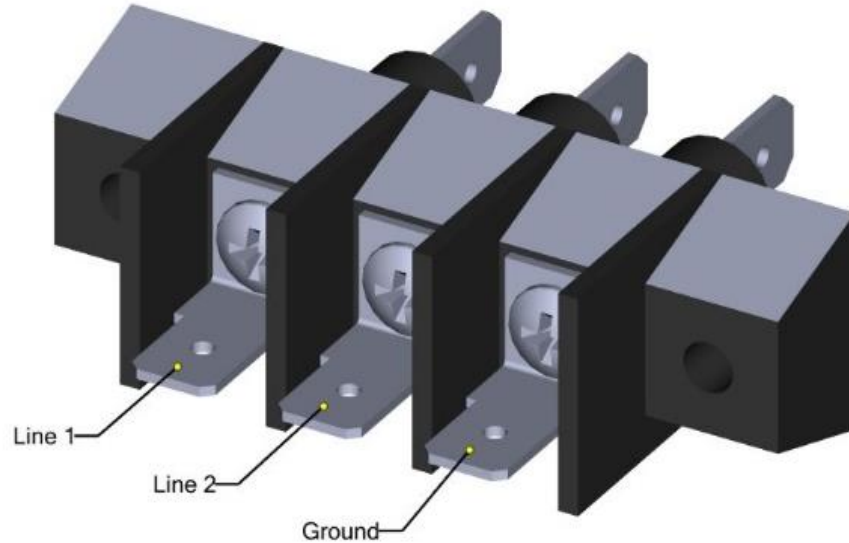

Figure 4: Power Terminal Block
6. Connect from left to right, Line 1, Line 2 and Ground. (See *Figure 4: Power Terminal Block*)
7. Once power is securely connected, install terminal box cover, using the (2) screws.